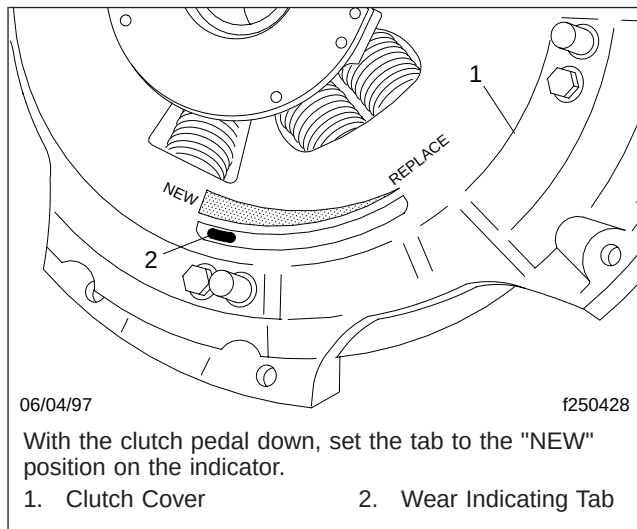

Fig. 1, Resetting the Wear Indicating Tab
3. Through the clutch cover inspection panel, use moderate force to slide the wear indicating tab leftward until it is at the NEW position on the indicator. See Fig. 1. If the tab does not move, follow the instructions under the heading "Releasing a Seized Cam".